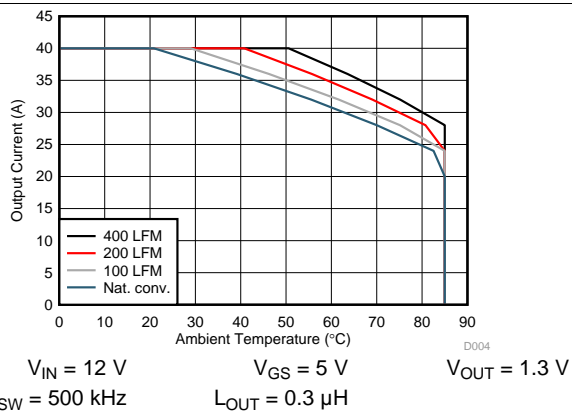
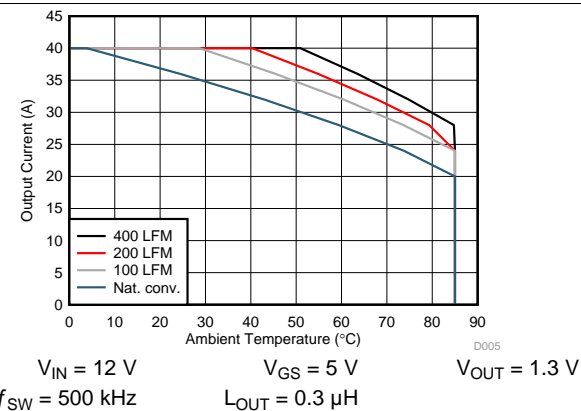
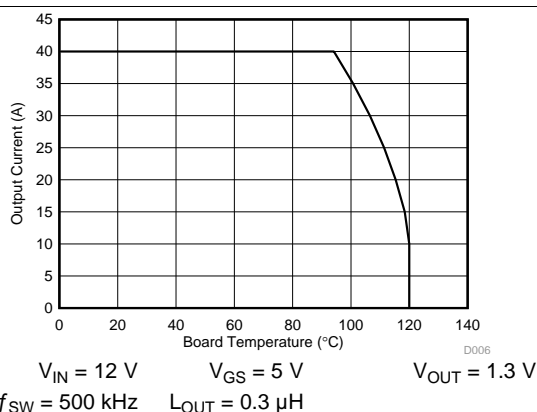

Figure 3. Safe Operating Area (SOA) – PCB Vertical Mount
Figure 4. Safe Operating Area (SOA) – PCB Horizontal Mount
Figure 5. Typical Safe Operating Area (SOA)
$T_J = 125^\circ\text{C}$, unless stated otherwise. The Typical Power Block System Characteristic curves Figure 3, Figure 4, and Figure 5 are based on measurements made on a PCB design with dimensions of 4" (W) \times 3.5" (L) \times 0.062" (H) and 6 copper layers of 1 oz. copper thickness. See Application and Implementation for detailed explanation.
The SOA curves in the CSD87350Q5D data sheet provides guidance on the temperature boundaries within an operating system by incorporating the thermal resistance and system power loss. **Figure 3** to **Figure 5** outline the temperature and airflow conditions required for a given load current. The area under the curve dictates the safe operating area. All the curves are based on measurements made on a PCB design with dimensions of 4" (W) × 3.5" (L) × 0.062" (T) and 6 copper layers of 1 oz. copper thickness.